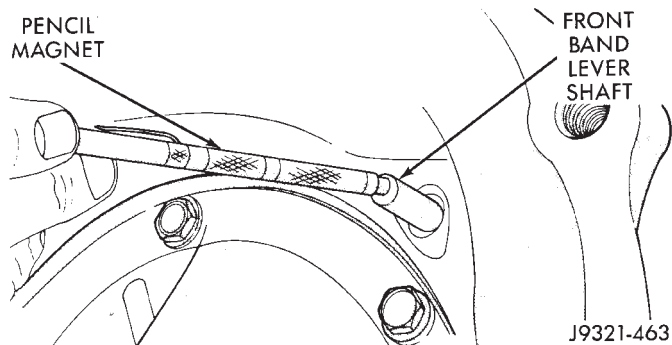

Fig. 137 Removing Front Band Lever Shaft
(26) Remove front band lever shaft with pencil magnet. Shaft is accessible from converter housing side of case (Fig. 137).